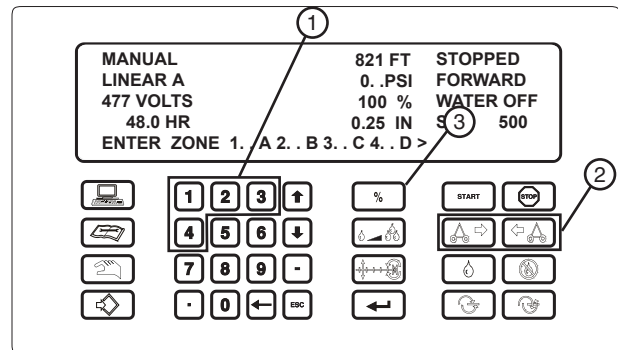

Figure 61-2 1. Numeric Keys 3. Percent Key
Select a Zone 1=A, 2=B, 3=C 4=D. See figure 61-2.
- Select the direction of movement for the span to pivot. See figure 61-2.
- Press  to set the percent timer to the desired percentage. See figure 61-2.